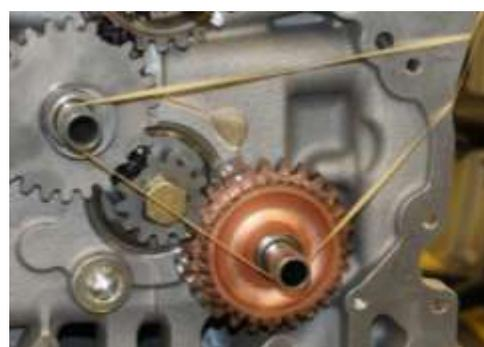

Figure 97
- C. Install a rubber band around the gears to hold them in place (Figure 97).